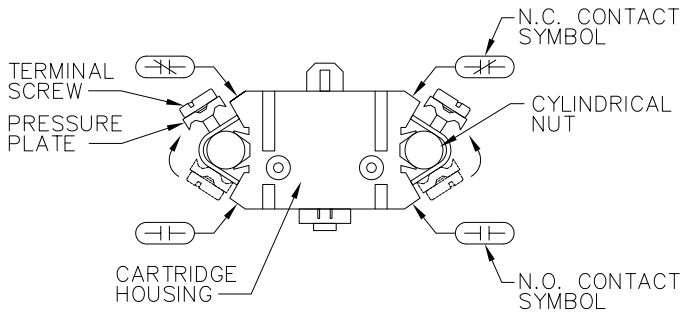

FIGURE 3. CONTACT CARTRIDGE
8. Lift the contact cartridge out of its location. Turn the cartridge over and rotate the two cylindrical nuts in Figure 3 to the required position (inserting the terminal screws a turn or two helps to facilitate this) in order to reassemble. Insert the cartridge back into its position. Verify the desired contact form by noting the N.C. or N.O. symbol on the contact. The symbol that is visible (facing upward) is the selected configuration.
5. The deck is now ready to be removed. As you remove the deck note its orientation, the bottom of each deck is keyed to assist in assembly. As you lift the deck, the black cross bar (Figure 3) for that deck will fall out of its center. Set the deck with its corresponding black crossbar aside.